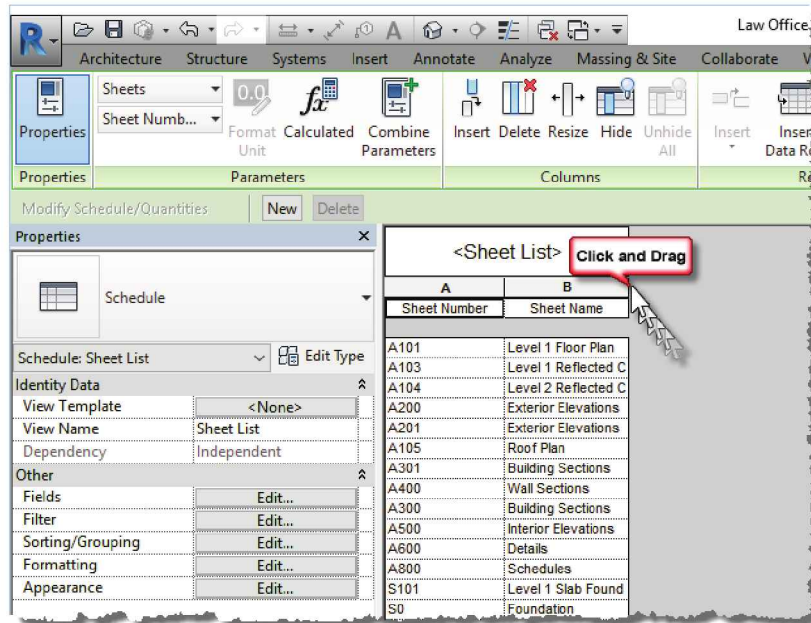

FIGURE 16-2.2
5. Move your cursor over the right edge of the *Sheet List* schedule and click-and-drag to the right until you can see the entire name (Figure 16-2.2).